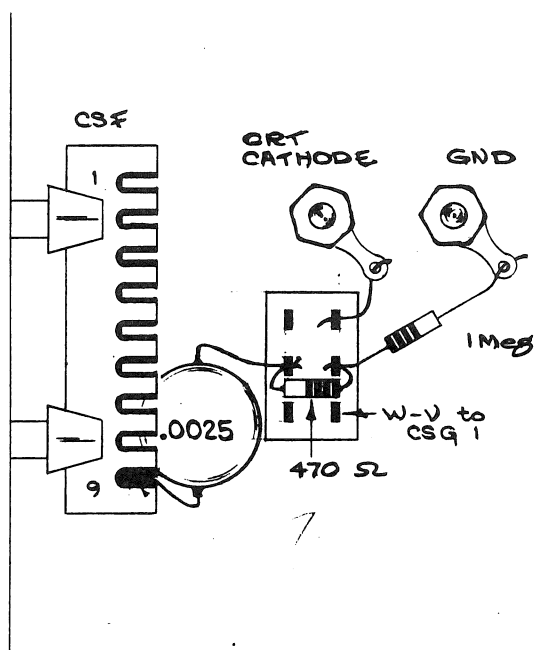

Fig. 7
- ( ) 9. Wire the CATHODE SELECTOR switch as indicated in Fig. 7.